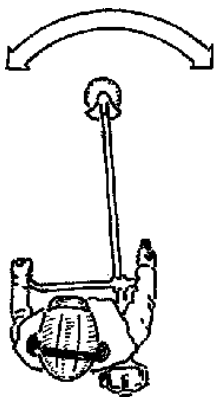

Fig.21
**Grass is cut** as if operating in corridors 1.5 meters wide by moving forward step by step and swinging the machine right and left. Make sure that you are standing securely on both feet before taking a new step (Fig. 21). When using the grass-cutter disks, always cut from right to left and leave a pile of cut grass on the left for subsequent recovery.